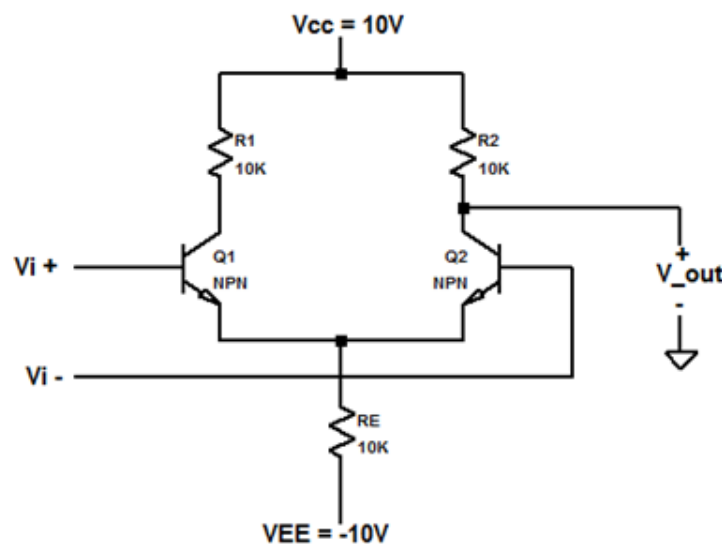
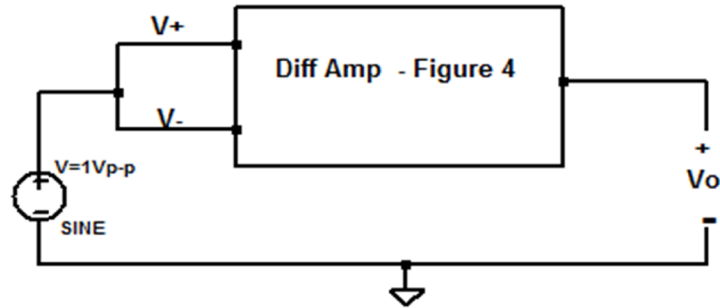

Figure 4. Basic Differential Amplifier
Figure 5 Measurement set-up for common mode gain measurement
1. Build the basic differential amplifier circuit as shown in Figure 4 using 2N3904 NPN transistors for Q1 and Q2.
2. Common mode voltage gain is measured by using the Figure 5, where the box represents the basic amplifier of figure 4. Connect 1KHz, 1V peak to peak sinusoidal signal to both + and - inputs. Check the output voltage V_o on a scope for no distortion (AC coupling). Record the input and output voltages and calculate common mode gain $A_c = (V_o/V_{in})$